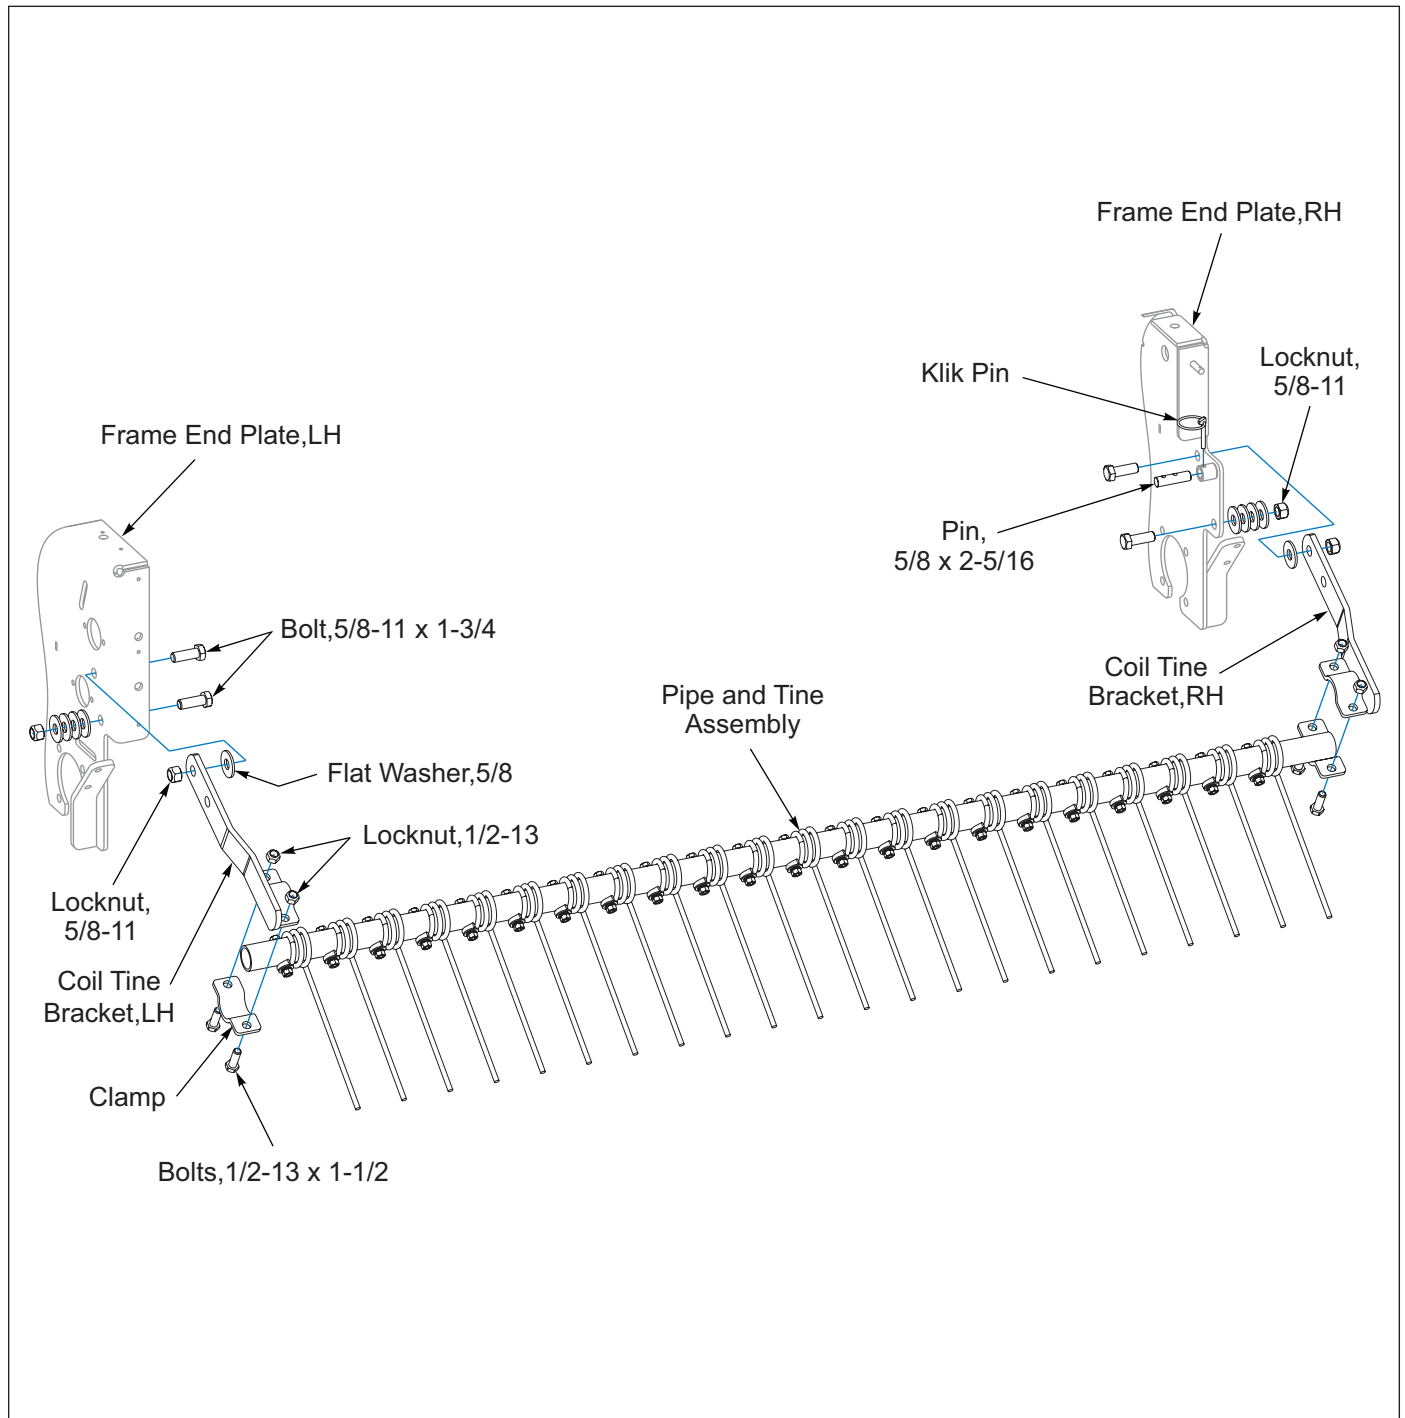

Figure 2-7: Coil Tine Setup
1. Insert a 5/8-11 x 1-3/4 Bolt from the inside out into each RH and LH Frame End Plate lower 21/32" hole. On the outside of each end plate, place four Flat Washers on the Bolt and secure with a Locknut. **See Figure 2-7.**